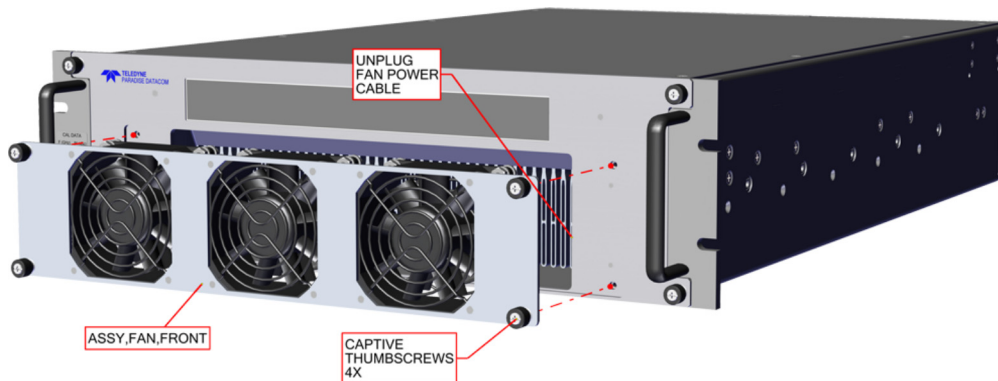

Figure 4: 3RU SSPA, Removable Front Fan Assembly
Four (4) captive thumb screws secure the fan tray to the front of the chassis. Loosen the thumb screws with a Philips screwdriver by rotating them counter-clockwise. Gently slide the fan tray assembly out of the enclosure until there is enough clearance to reach the power plug. Unplug the power connector. See Figure 4.